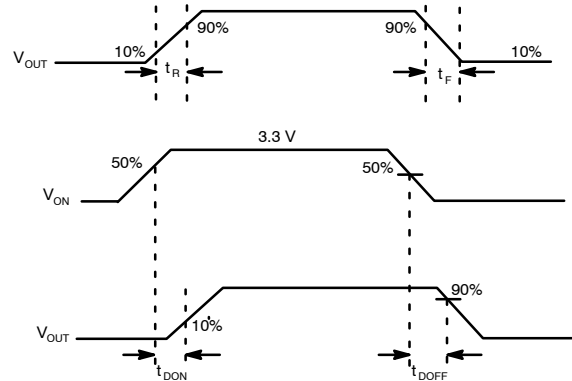

Figure 21. Timing Diagram
4.  $t_{DON} / t_{DOFF} / t_R / t_F$  are defined in Figure 21.